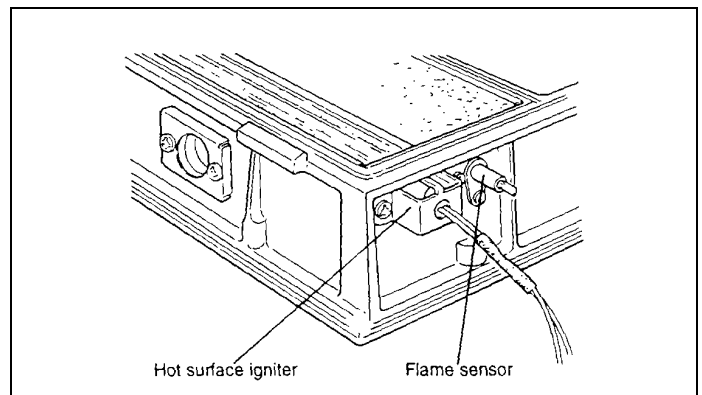
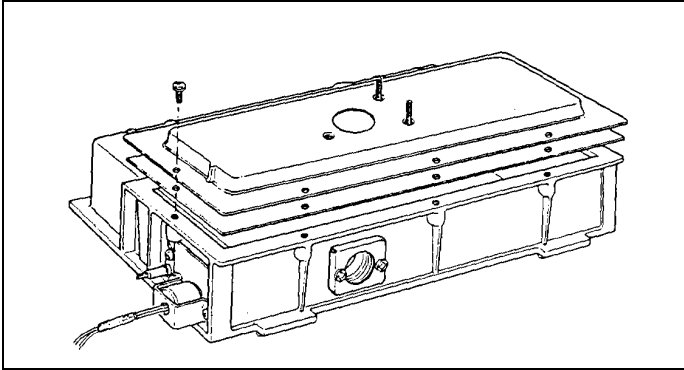

FIG. 19 HOT SURFACE IGNITER & FLAME SENSOR
FIG. 20 REMOVAL OF BURNER
- b) The igniter assembly is retained by two MS pozi drive screws. Remove screws and carefully remove old igniter, if the igniter has become damaged, invert the combustion chamber and shake gently to allow damaged segments to be removed from the chamber. See FIG. 19.
- b) Remove screw retaining sensor and withdraw from the combustion chamber. See FIG. 19.
- b) Remove burner FIG. 20 hot surface igniter and flame sensor. FIG. 19.
- b) Remove 8 M5 screws retaining burner to the combustion chamber. FIG. 20.